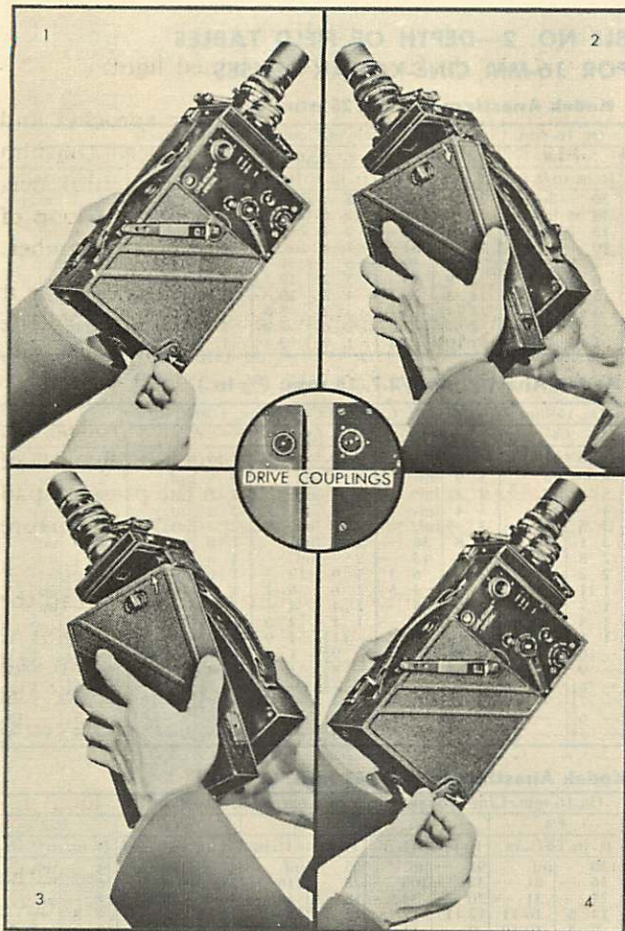

Figure 6—Attaching and Removing
c. REMOVING AND ATTACHING FILM CHAMBERS. (See figure 6.)
(1) REMOVING.—Be sure the starting button is out. Then push the aperture slide button (10, figure 2) to "CLOSED" to avoid exposing the frame of film positioned in the aperture and to lock the camera mechanism. *Do not attempt to remove the film chamber with the aperture slide button at "OPEN."* Raise the chamber locking lever (1, figure 6) until it snaps out. Swing the film chamber down (2) to release it from the mechanism.